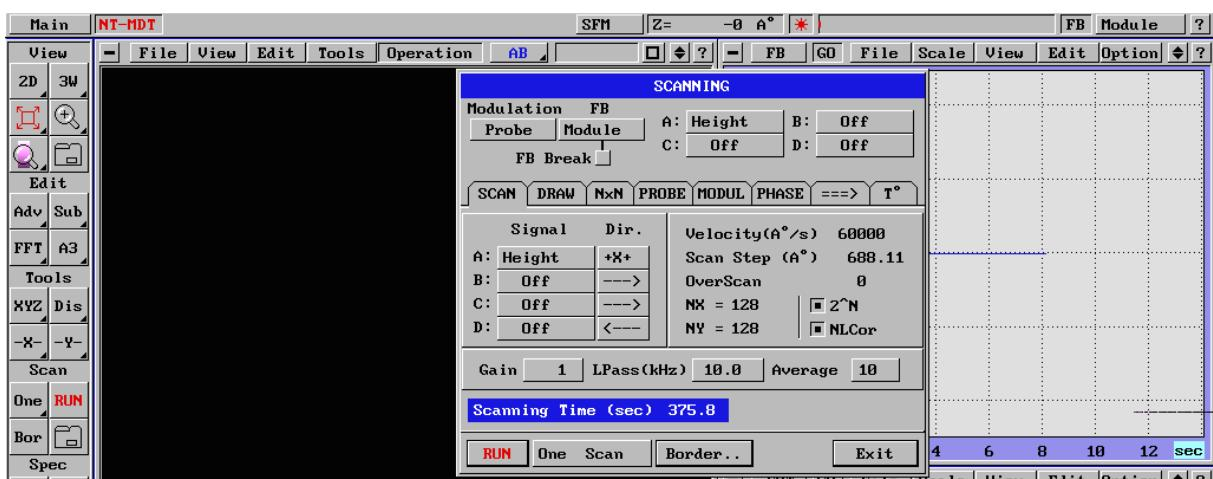

Fig. 212
Velocity - 60000 A/ннн (Fig. 212)
NX xNY - 128 x 128⁹ (Fig. 212)
Step (A) - max¹⁰ (Fig. 212)
NL Corr - on (Fig. 212)
Scan dir - +X+ (Fig. 212)
Gain = 1 (Fig. 212)
Lpass(kHz)=10 (Fig. 212)
Average = 10 (Fig. 212)